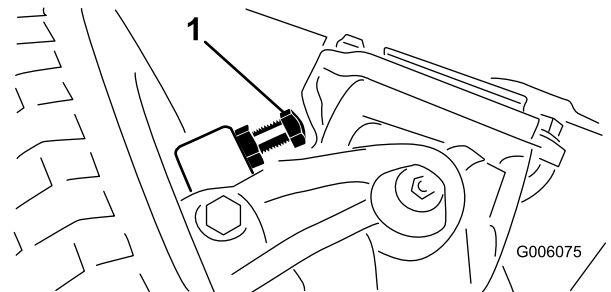

Figure 67
1. Thread the bolts in or out until you attain a clearance of 0.23 cm (0.090 inch); refer to Figure 67.